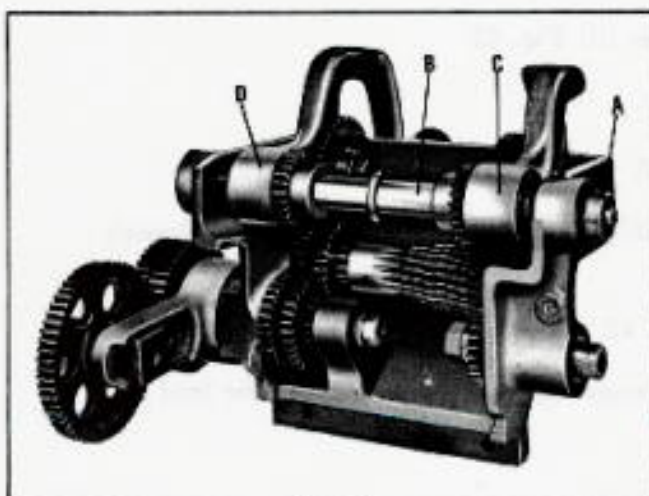

Fig. 41.
3. Loosen set screw in collar (A) Fig. 41, and remove the collar.
4. Slide the shaft (B) to the left as viewed in Fig. 41, and remove and replace the tumblers (C) and (D).